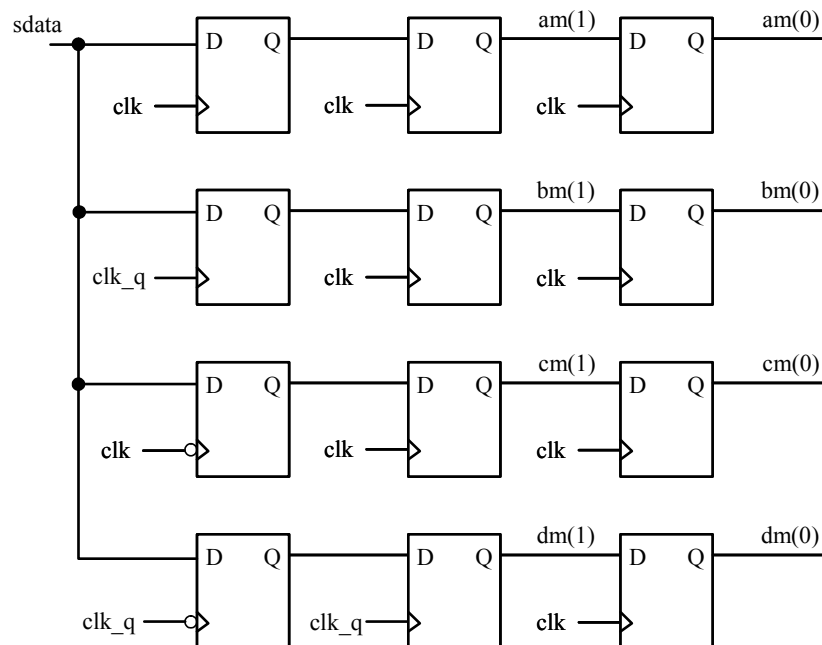
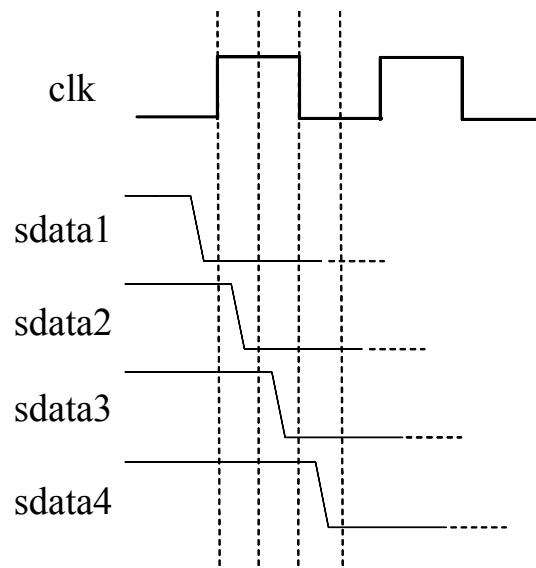

Figure 2.
Figure 3.
2. Within the system considered we also have another subsystem as shown in figure 2:
3. Using exclusively combinational logic functions, modify the system in figure 2 to make it able to produce a valid sample of input signal *sdata*. **Hint:** To answer this question it is convenient to consider the 4 different possible situations of signal *sdata* with respect to signal *clk* as shown in figure 3.
Between these two nodes is running a non-destructive arbitration process to get bus control, as is displayed in figure 2, where “S” means the start bit.
Looking at figure 2, we ask: